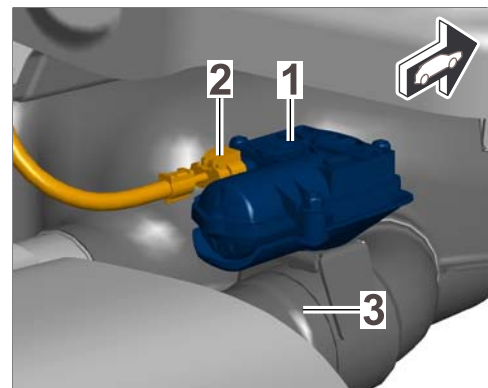

Figure 45
- 6.2 Connect connector ⇒ *Figure 45 -2-* on servo motor for exhaust flap control ⇒ *Figure 45 -1-* at the left and right. Lock connector.